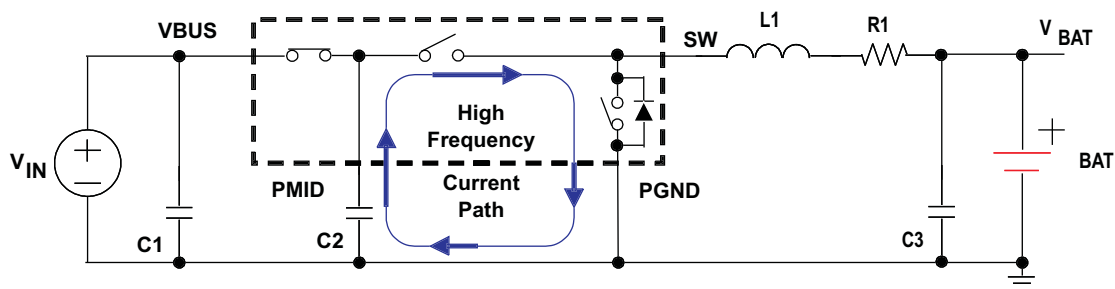
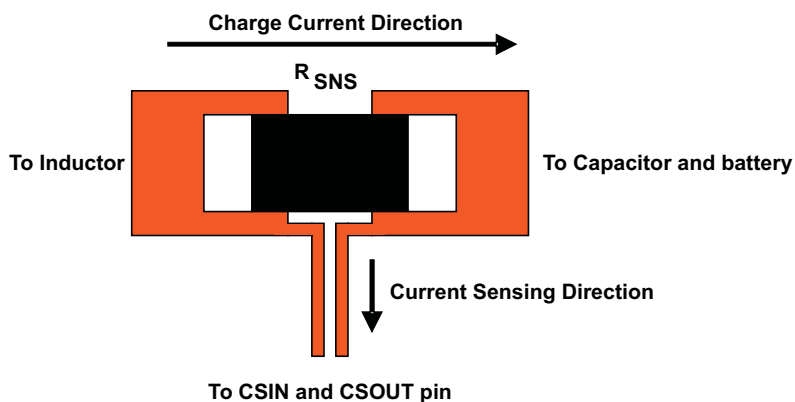

Figure 37. High Frequency Current Path
Figure 38. Sensing Resistor PCB Layout
- To obtain optimal performance, the power input capacitors, connected from input to PGND, should be placed as close as possible to the bq24152. The output inductor should be placed close to the IC and the output capacitor connected between the inductor and PGND of the IC. The intent is to minimize the current path loop area from the SW pin through the LC filter and back to the PGND pin. To prevent high frequency oscillation problems, proper layout to minimize high frequency current path loop is critical (see Figure 37). The sense resistor should be adjacent to the junction of the inductor and output capacitor. Route the sense leads connected across the RSNS back to the IC, close to each other (minimize loop area) or on top of each other on adjacent layers (do not route the sense leads through a high-current path, see Figure 38).